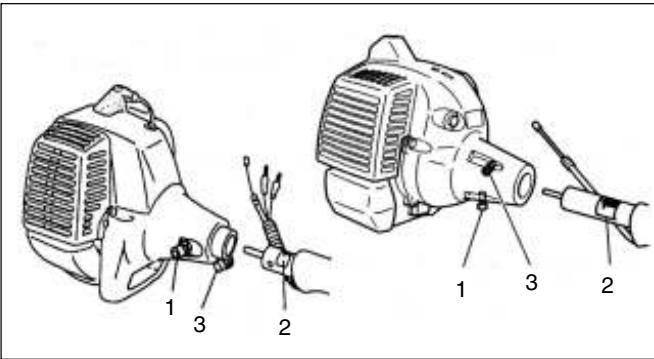

Fig.1-1
(En) Drive shaft to engine (Fig. 1-1)
- Make sure the lock pin (1) fits in the location hole (2) of tube and that the tube will not come off. (Fig. 1-1 B)
(Fr) Arbre d'entraînement du moteur (Fig. 1-1)
(It) Montaggio dell'albero trasmissione al motore (Fig. 1-1)